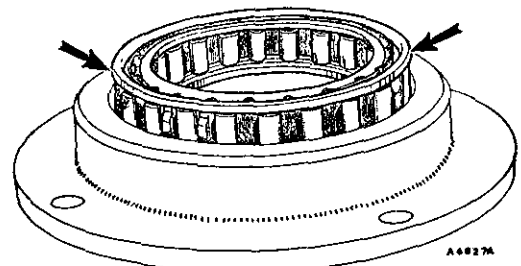

Fig. Fa.59
- (6) Reassemble the thrust bearing, intermediate spring ring, first gear free-wheel (lip facing outwards, see Fig. Fa.59), spring ring, and refit the circlip.
- (7) Refitting is a reversal of the removing procedure.